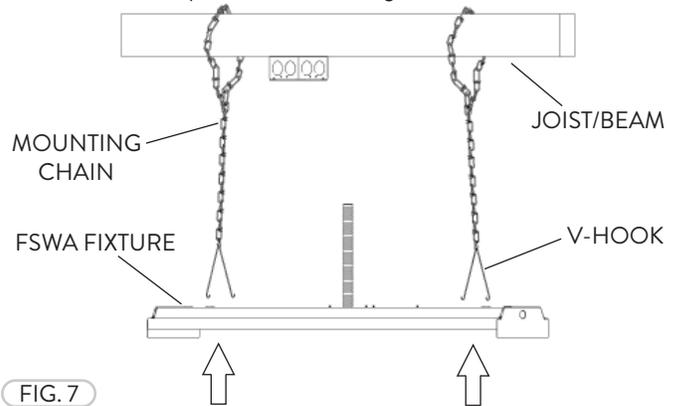

FIG. 7
- 2 Install the V-Hook and Chain Mounting to the Joist/Beam. Lift the FSWA fixture up to the V-Hooks (Fig. 7).